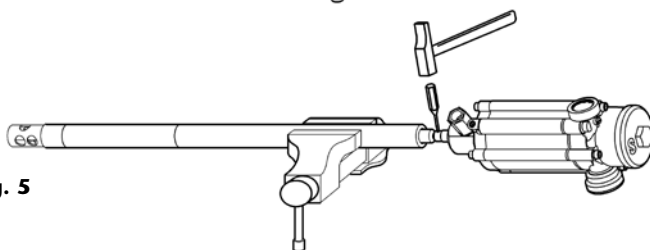

Fig. 5
4. Remove the pin and unthread the rod until it is loosened (fig. 5).